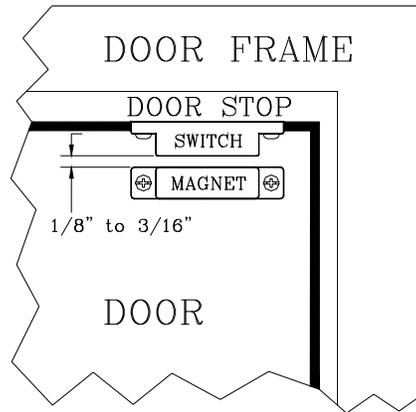

Figure 4.3 Mounting the Magnetic Switch
Magnetic Switches are usually located at the top of the monitored door on the doorstop. The part that contains the Switch is mounted on the header or doorframe, while the part that contains the activating Magnet is mounted on the door itself (see Figure 4.3). A recessed model is also available.
To mount the Magnetic Switch, refer to Figure 4.3 and use the following instructions:
8. Using the spacer provided in the kit, position the Door Magnet as shown in Figure 4.3 and mark where the mounting holes (7/64") will be drilled.